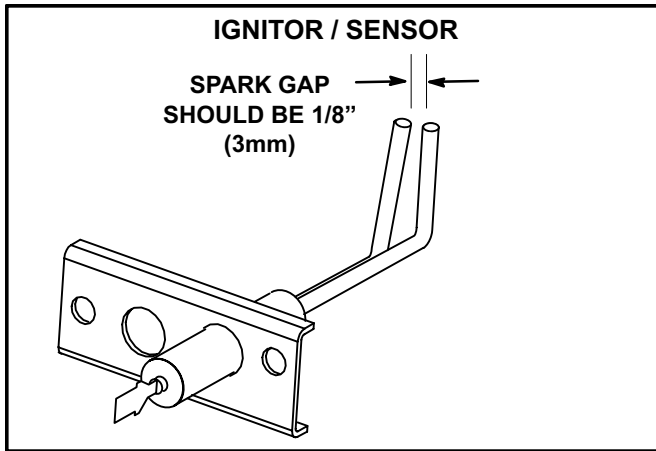

FIGURE 19
- 2- Remove left burner and check spark gap with appropriately sized twist drills or feeler gauges. See figure 19.